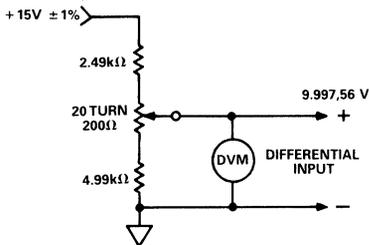

Figure 5. Input Connection for the R_{SPAN} Calibration
1. Apply a precise $10V - 2.44mV$ across the input of the AD369. A voltage divider as shown in Figure 5 can be employed; in conjunction with a precision voltmeter to verify an input of $9.997,56V$.